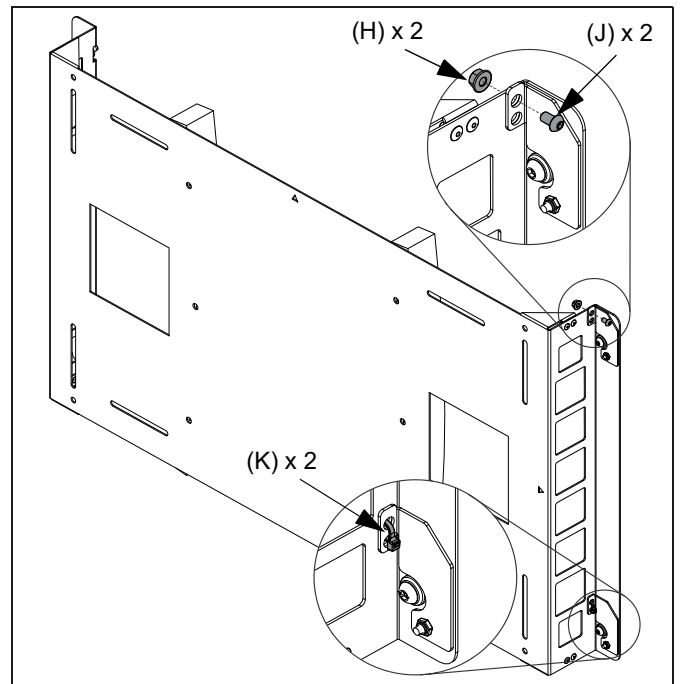

Figure 7
7. **OPTIONAL:** Lock latching flags in place, if desired. Flags can be locked using included M6 x 10 mm screws (J) and M6 (H) nuts **OR** cable ties (K). (See Figure 7)